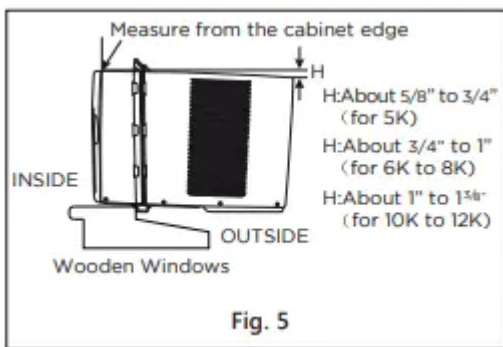

Fig. 5
A. Keep a firm grip on the air conditioner, carefully place the unit into the window opening so the bottom of the air conditioner frame is against the window sill (Fig. 5). Carefully close the window behind the top rail of the unit.
**NOTE** Check that air conditioner is tilted back per dimension H (Fig. 5) (tilted about 3° to 4° downward to the outside). After proper installation, condensate should not drain from the overflow drain hole during normal use. Adjust the slope if otherwise.